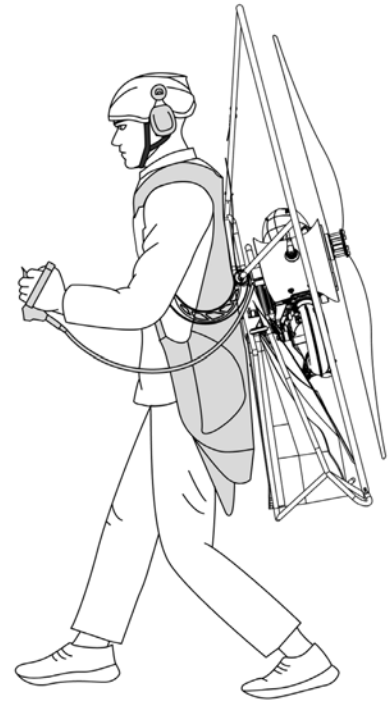

FIGURE 4.2
4. Place a foot out in front of you to brace yourself against while gently accelerating by squeezing the throttle, and with varying power output intensity (Figure 4.2). Run the engine in this way for five minutes to ensure the engine reaches optimum operating temperature.